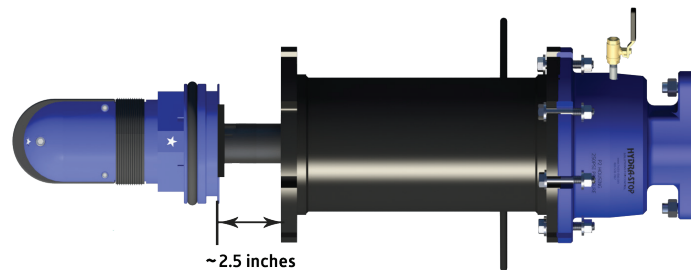

Figure 32
3.0.11) Insert the assembled valve cartridge and insertion tool through the insertion housing / tapping assembly until the top of the valve cartridge is approximately 2.5" from the bottom flange of the insertion housing. Make sure the shorter, truncated side of the valve cartridge marked with a star is facing upwards (see Figure 32).